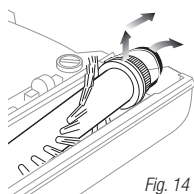

Fig. 14
- 5 Carefully lift and remove the brushbar from the belt. (Fig. 14) To reinsert the brushbar, slide the brush bar into the bushing and then place the belt over the ridges of the brushbar cap. Replace the trap door and lock in place.